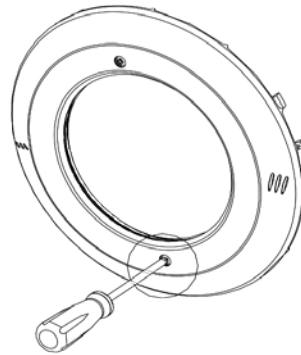

Figure 9
2. Aim at the screw hole and tighten the fixture to the niche with the screws provided. (See Figure 9).